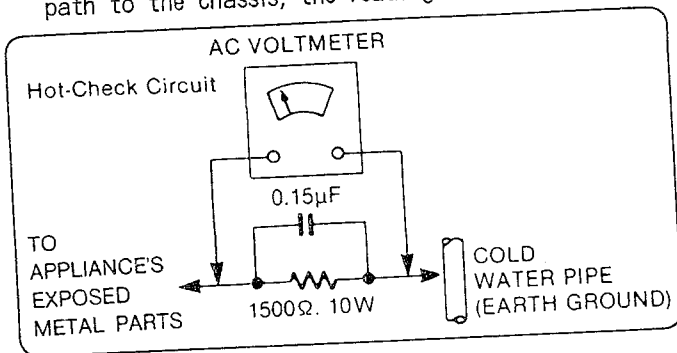

Figure 1
## LEAKAGE CURRENT HOT CHECK (See Figure 1)
2. Connect a 1.5k ohm, 10 watts resistor, in parallel with a 0.15µF capacitor, between each exposed metallic part on the set and a good earth ground such as a water pipe, as shown in Figure 1.